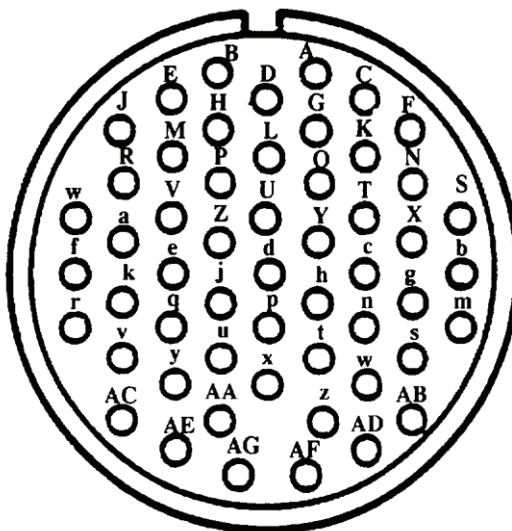

Figure 1. Diagnostic Connector Pin Positions.
4. Loosen rear outer ring and plastic insert from diagnostic connector (WP 0043, Figure 1, Item 60).
5. Tag and disconnect electrical leads to diagnostic connector (60) by inserting removal tool into pins of connector.
6. Remove screws (58) and nuts (59).
7. Remove diagnostic connector cap (61), diagnostic connector (60), and gasket (62).
1. Install diagnostic connector (WP 0043, Figure 1, Item 60), gasket (62), and cap (61) with screws (58) and nuts (59).
2. Connect electrical leads to diagnostic connector (60) by using insert tool. Remove tags.
The diagnostic connector can be used as a troubleshooting tool. Refer to Figure 1 for pin positions.